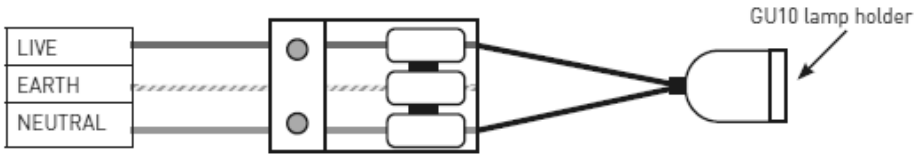

Fig. 1
- Brown – LIVE, Blue – NEUTRAL, Green/Yellow – EARTH (see Fig. 1)